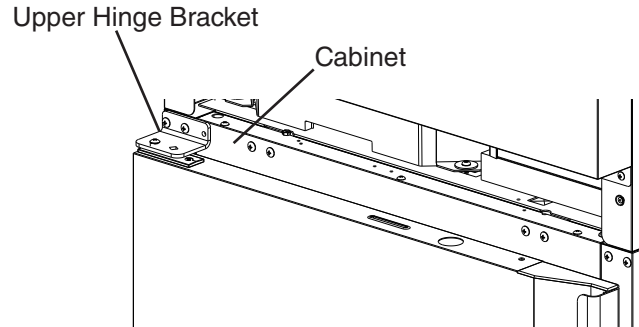

Fig. 14
- 10) Secure the upper hinge bracket to the appliance. See Fig. 14.